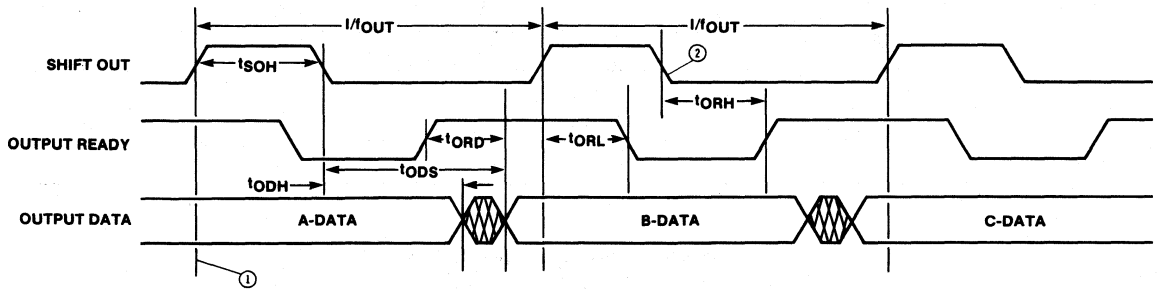

Figure 5. Output Timing
- NOTE: Shift-In pulses applied while Input Ready is LOW will be ignored (See Figure 5).